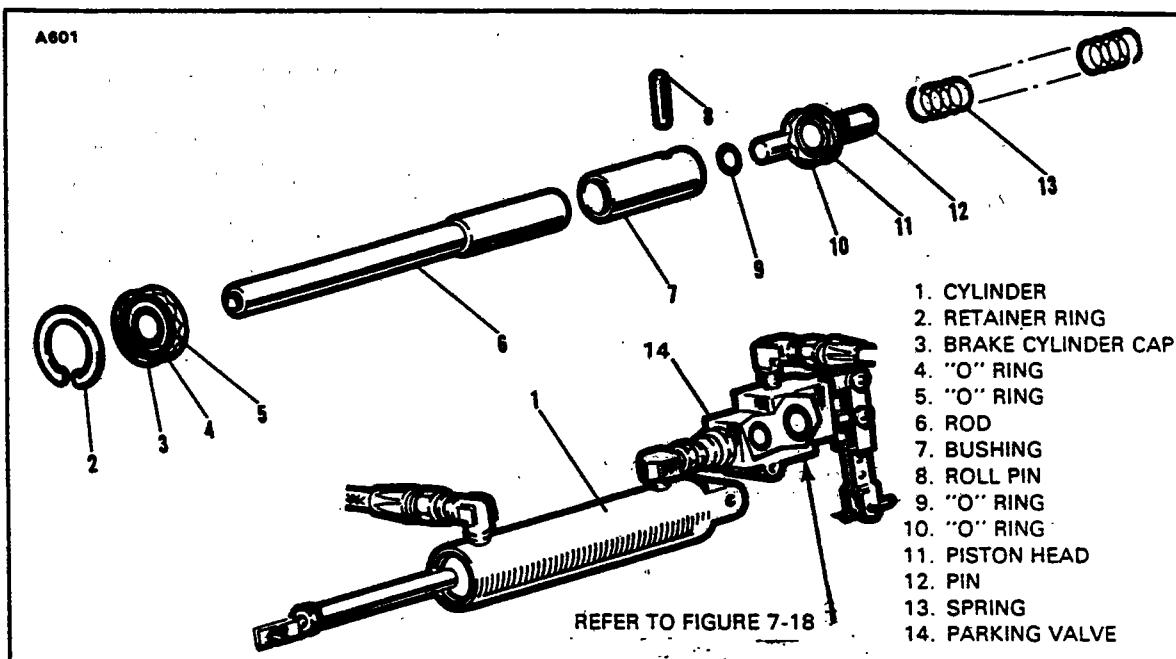
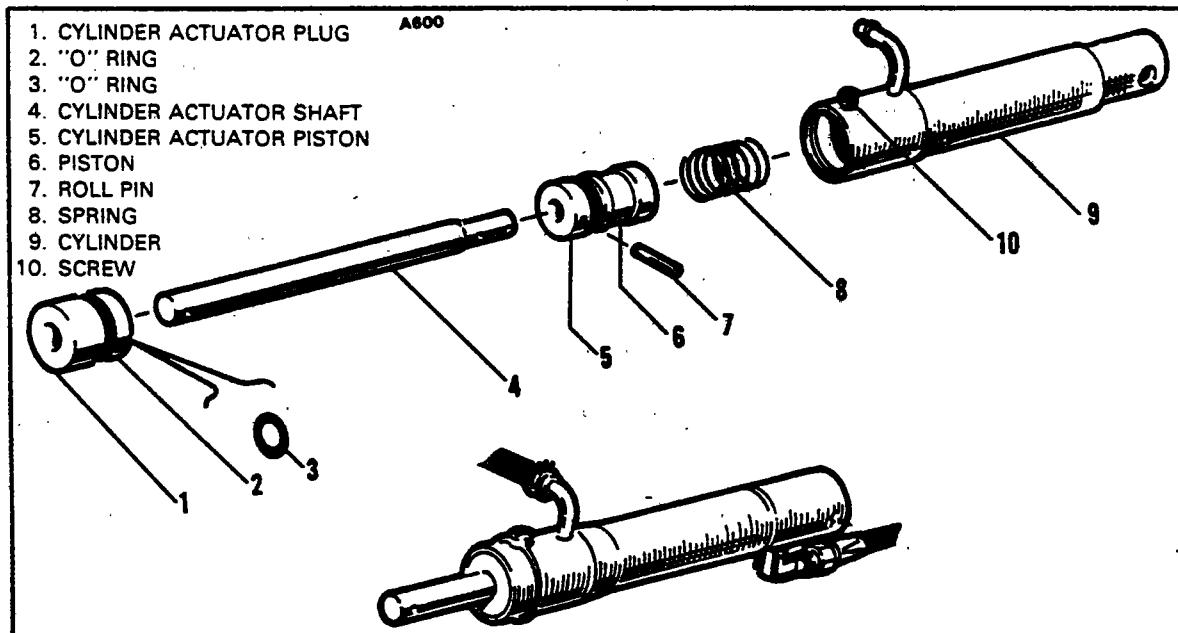
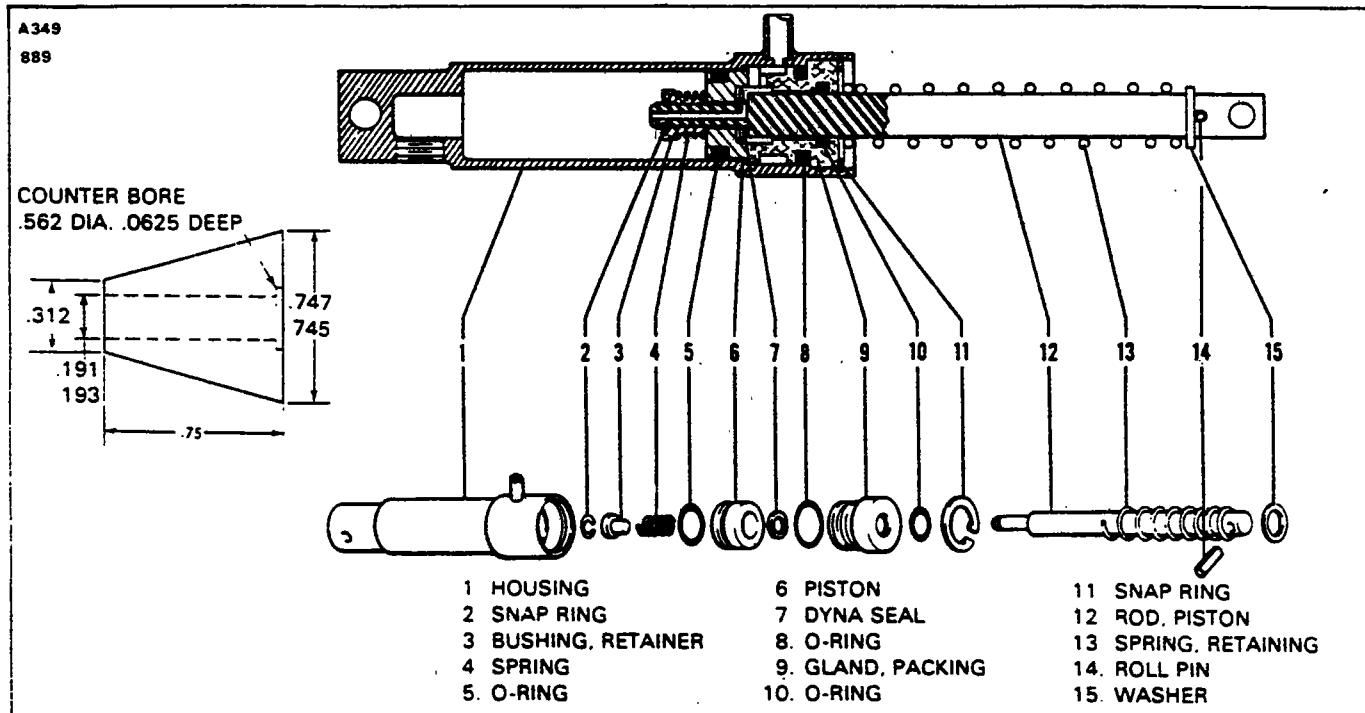

Figure 7-15. Brake Master Cylinder (Hand Brake)
Figure 7-16. Brake Master Cylinder (Hand/Parking Brake)
Figure 7-17. Brake Master Cylinder. (Hand/Parking Brake)
a. PA-28-150. -160. Serial Nos. 28-1 to 28-250 incl. (Refer to Figure 7-15.)
2. To disassemble the cylinder, first remove the piston rod assembly by removing the retainer ring (2) from the annular slot at the rod end of the cylinder. Draw the piston rod assembly from the cylinder. Remove the spring (13) from the cylinder.
3. The piston rod assembly may be disassembled by first removing the clevis end from the piston rod (6) and then sliding off the brake cylinder cap (3).
4. Remove the roll pin (8) from the bushing (7) thus releasing the piston head and O-rings (9 and 11).
b. PA-28-140. Serial Nos. 28-20002 to 28-21036 incl; PA-28-150. -160. -180 Serial Nos. 28-251 to 28-2700 incl; PA-28-235. Serial Nos. 28-10003 to 28-10679 incl. (Refer to Figure 7-16.)
2. Cut the safety wire and remove screw (10) that secures the plug (1) in the end of the cylinder (9).
3. Remove the plug (1) and piston assembly from the cylinder by pulling the cylinder actuator shaft (4) from the cylinder.
4. Remove the spring (8) from within the cylinder.
5. Remove the roll pin (7) from the cylinder actuator piston (5) and pull off the piston.
c. PA-28-140. Serial Nos. 28-21037 and up; PA-28-150. -160. -180. Serial Nos. 28-2701 and up; PA-28-235. Serial Nos. 28-10698 and up. (Refer to Figure 7-17.)
2. To disassemble the cylinder, first remove the piston rod assembly by removing the snap ring (11) from the annular slot at the rod end of the cylinder. Draw the piston rod assembly from the cylinder.
3. The piston rod assembly may be disassembled by first removing the small snap ring (2) securing the retainer bushing (3), spring (4), piston (6), seal (7), gland (9), and, if desired, the large retainer spring (13).
- a. PA-28-150. -160. Serial Nos. 28-1 to 28-250 incl. (Refer to Figure 7-15.)
b. PA-28-140, Serial Nos. 28-20002 to 28-21037; PA-28-150, -160, -180, Serial Nos. 28-251 to 28-2700 incl; PA-28-235, Serial Nos. 28-10003 to 28-10697 incl. (Refer to Figure 7-16.)
5. Install the plug assembly (1) on the shaft and install the screw through the housing.
- c. PA-28-140, Serial Nos. 28-21037 and up; PA-28-150, -160, -180, Serial Nos. 28-28-2701 and up; PA-28-235, Serial Nos. 28-10698 and up. (Refer to Figure 7-17.)
1. Install new "O" ring on the inside and outside of the packing gland (9) and on the outside of the piston (6). (When installing teflon "O" ring (5) on piston, it is recommended that it be installed with the use of a cone placed against the piston. The cone may be constructed of plastic or metal with dimensions shown in Figure 7-17.)
2. To assemble the piston rod assembly, install on the rod (12), in order, the roll pins (14), return spring retainer washer (15), retaining spring (13), packing gland (9) with "O" rings (10), seal (7), piston (6) with "O" ring, spring (4) and retainer bushing (3). Secure these pieces with snap ring (2) on the end of the rod.
3. Insert the piston rod assembly in the housing (1) and secure packing gland with snap ring (11).